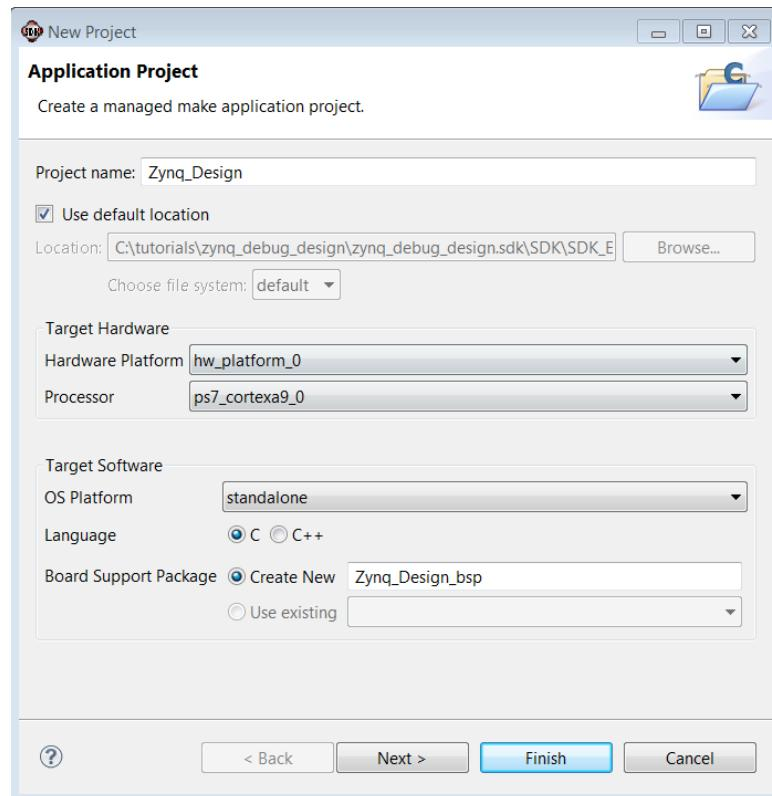

Figure 34: SDK Application Project
4. In the Project Name field, type **Zync_Design**, and click **Next** (FIGURE 34).
5. From the Available Templates, select **Hello World** (FIGURE 34) and click **Finish**.